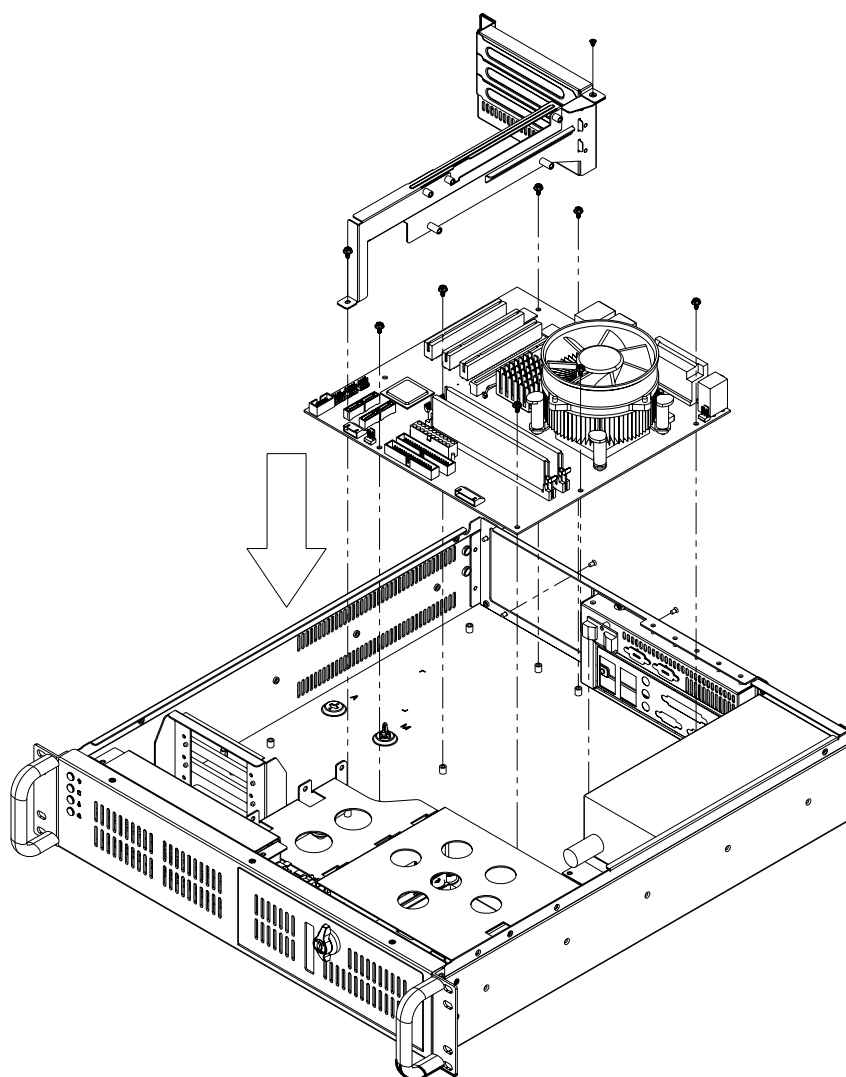

Figure 2.4 Installing a motherboard
4. Attach the motherboard I/O shielding onto the rear plate first. Then fasten the motherboard onto the chassis (see Figure 2.4).